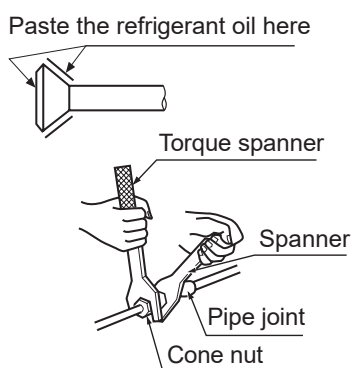

Fig.7
- To connect the pipes to valve box or remove them from valve box, do use both spanner and torque wrench, as shown in the Fig.7.